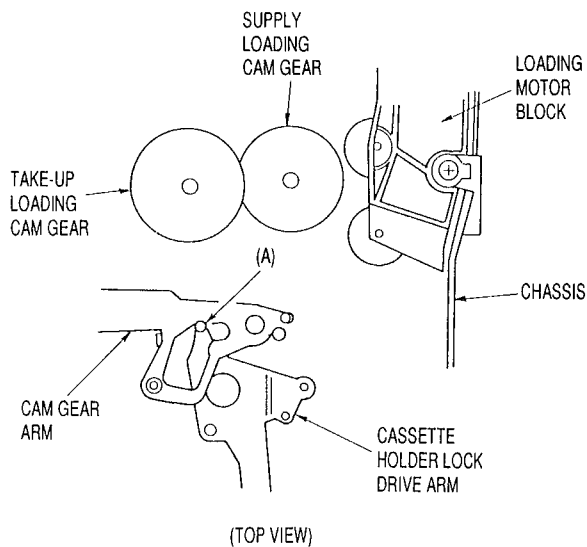

Fig. 3-36
- 1) Move the cassette holder lock drive arm so that the pin comes into contact with section (A) of the cam gear arm. (See Fig. 3-36)